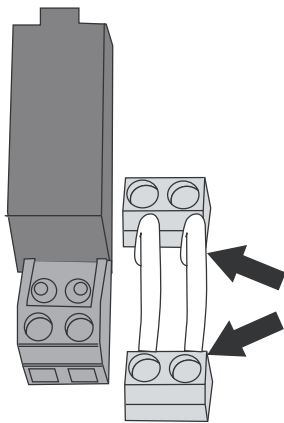

Fig. 11 Changing output / or 8 to pump control. First remove wire loops
2. At the relevant terminal block, remove the wire loops which are connected perpendicularly, see Fig. 11.